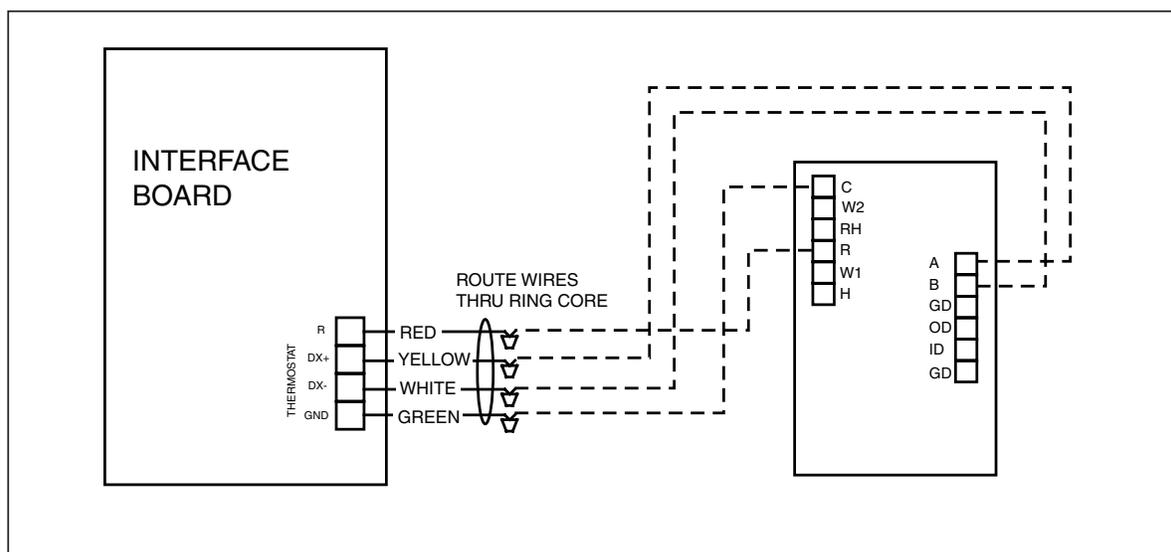

Figure 22. Thermostat wiring in field
Furnace is factory configured to operate on low and high fire – two stage mode configurations. The second stage will function based on the program settings in the thermostat controller. The furnace integrated control board consists of two boards – main and add-on boards. The two boards are pre-wired with the furnace interface board. The IQ thermostat controller requires wiring to the interface board in the field (see Figures 22 and 25).
a. Two stage heating: (see Figure 22): Programmable controller thermostat for the two stage heating should be wired as wiring diagram shown in Figure 22. On a call for first stage heat, inducer runs for 30 seconds pre-purge at high speed. The furnace will operate on low fire and both the inducer and main blower will operate at low speed. On a call second stage heat based on programmed timing or differential temperature, the furnace will operate at high fire and both inducer and main blower will operate at high speed.
2. The thermostat wires (A, B, C and R) are securely connected to the correct leads on the terminal strip of the interface board. (R, DX+, DX- and Gnd. (See Figure 22.)